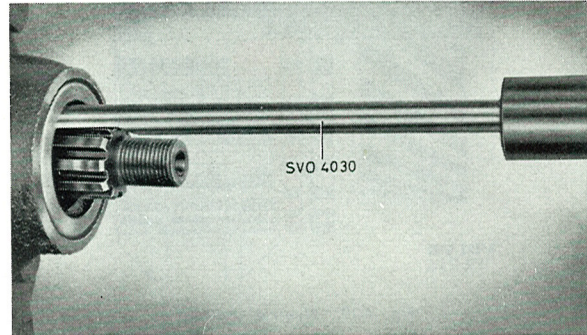
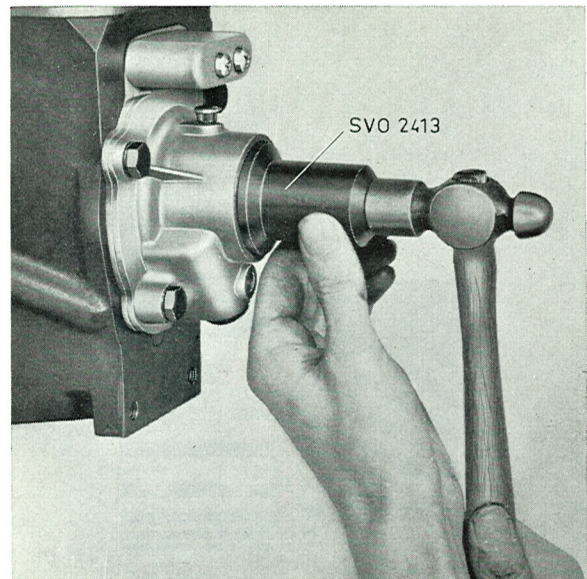

Fig. 4-24. Removing the oil seal
Fig. 4-25. Fitting the oil seal
3. Pull out the old oil seal with puller SVO 4030, see Fig. 4-24. Fit the new seal with the help of sleeve SVO 2413, see Fig. 4-25.